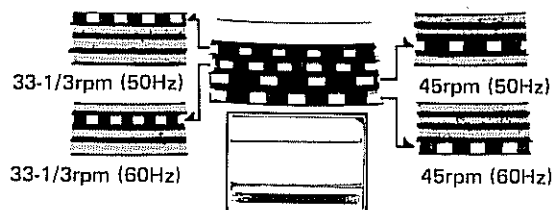

Fig. 12
3. Push the **START** button and observe the appropriate strip of strobe calibration dots on the platter edge (Fig. 12).
5. Set the speed selector switch to **45**, and proceed to adjust in exactly the same way with the 45rpm fine adjustment knob, while observing the appropriate strip of strobe calibration dots on the platter edge (Fig. 12).